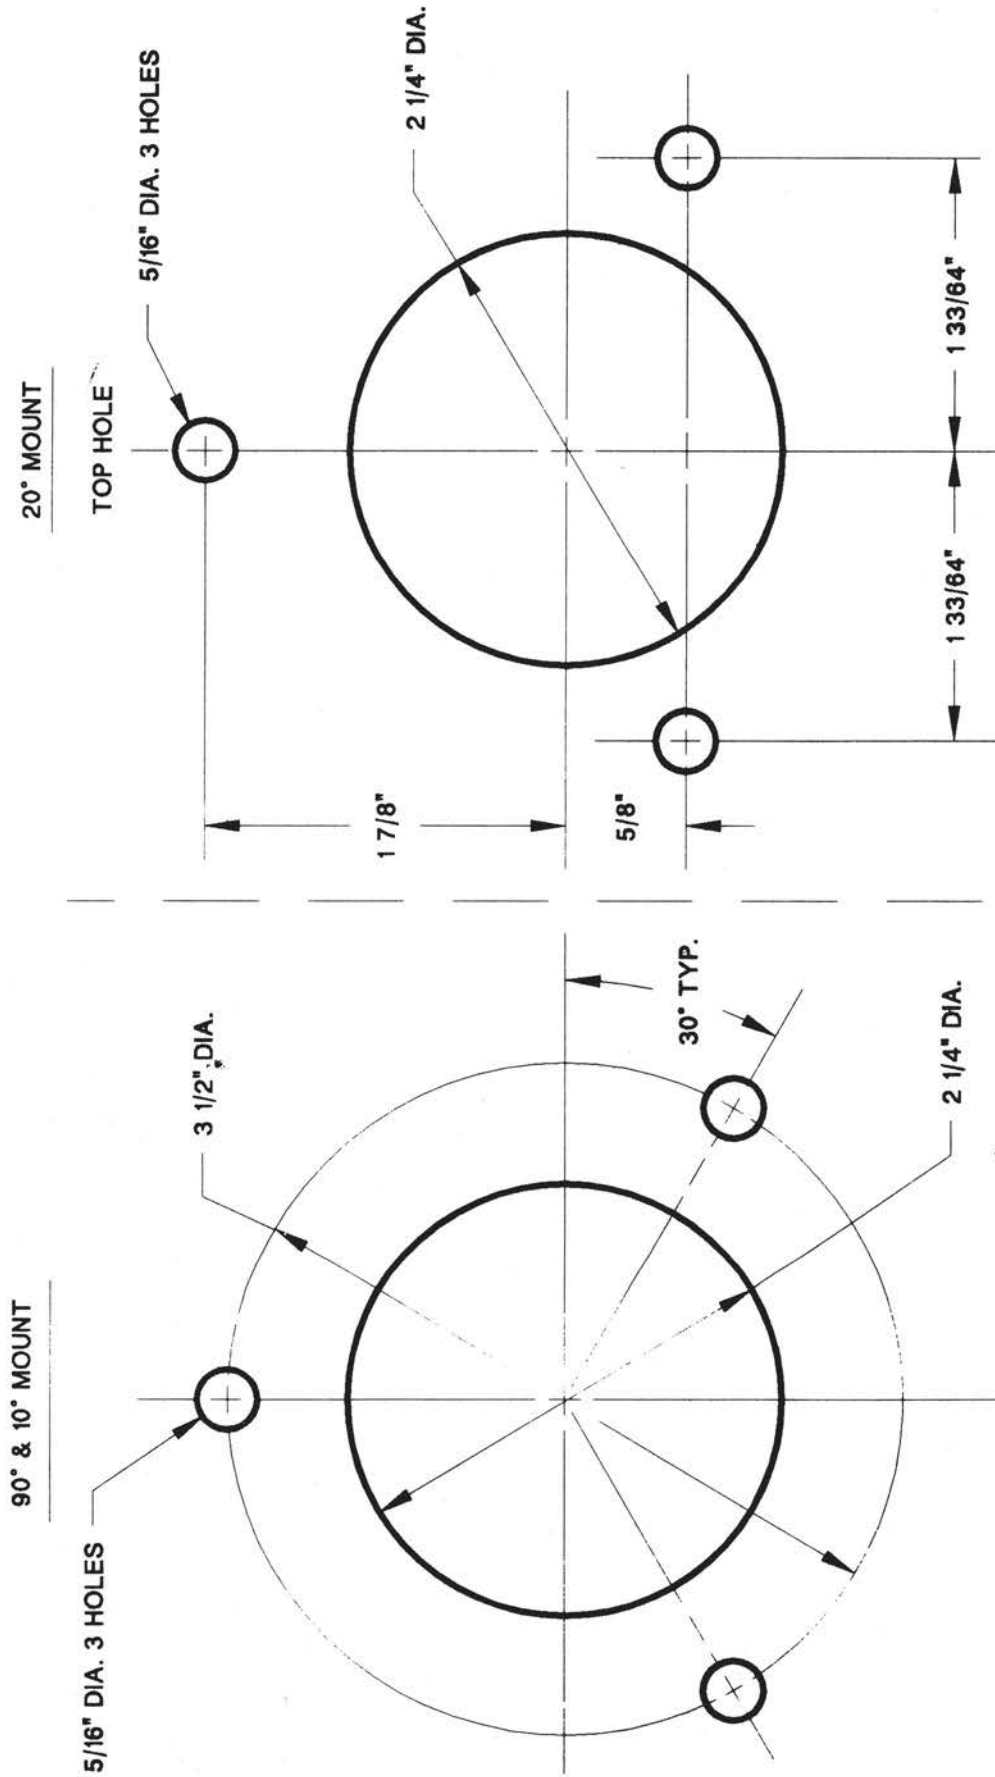

Figure 5.
**STEP 2.** Position the template (Figure 5) on the console or dashboard at the location previously marked. Drill one hole 2 1/4" diameter and 3 holes 5/16" diameter.